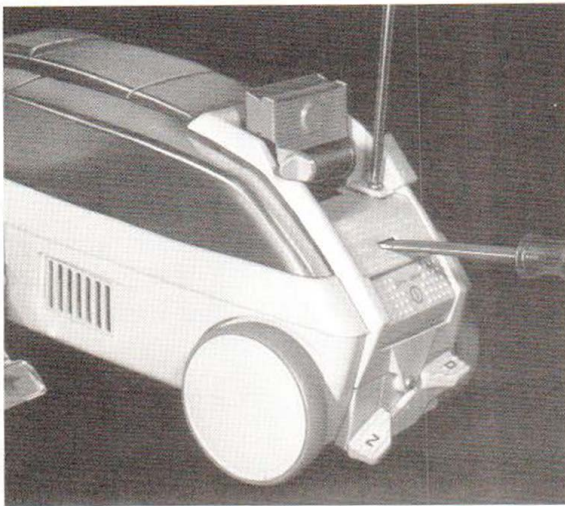

Figure 3. Scuff Plate Removal
B. *See Figure 3.* Remove scuff plate by: